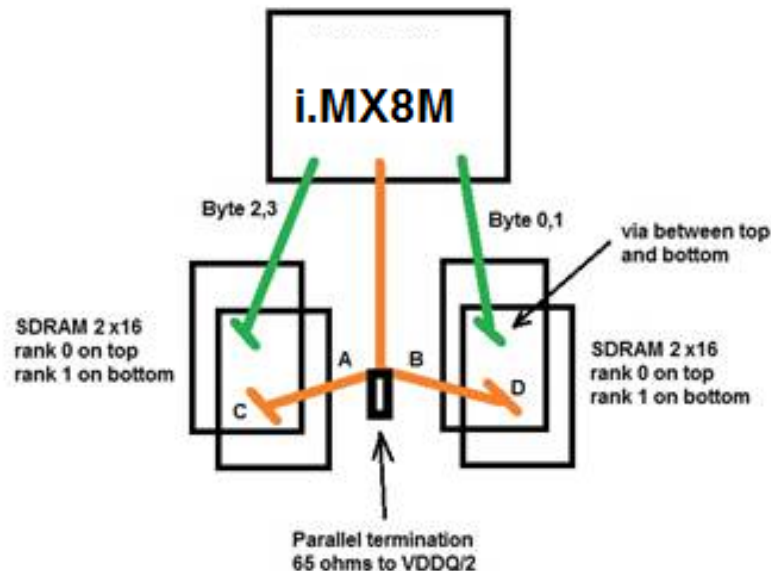

Figure 7. PCB routing topology for a 2-rank system
2. As illustrated in Figure 7, for data bytes, route straight from SOC to the SDRAM devices and via up and down with minimal stubs. For address/command signals, it is a T structure with branch to the SDRAM devices and via up and down with minimal stubs. And add a parallel termination (about 65 ohm to $VDDQ/2$ or VTT) at the branch point of the T.